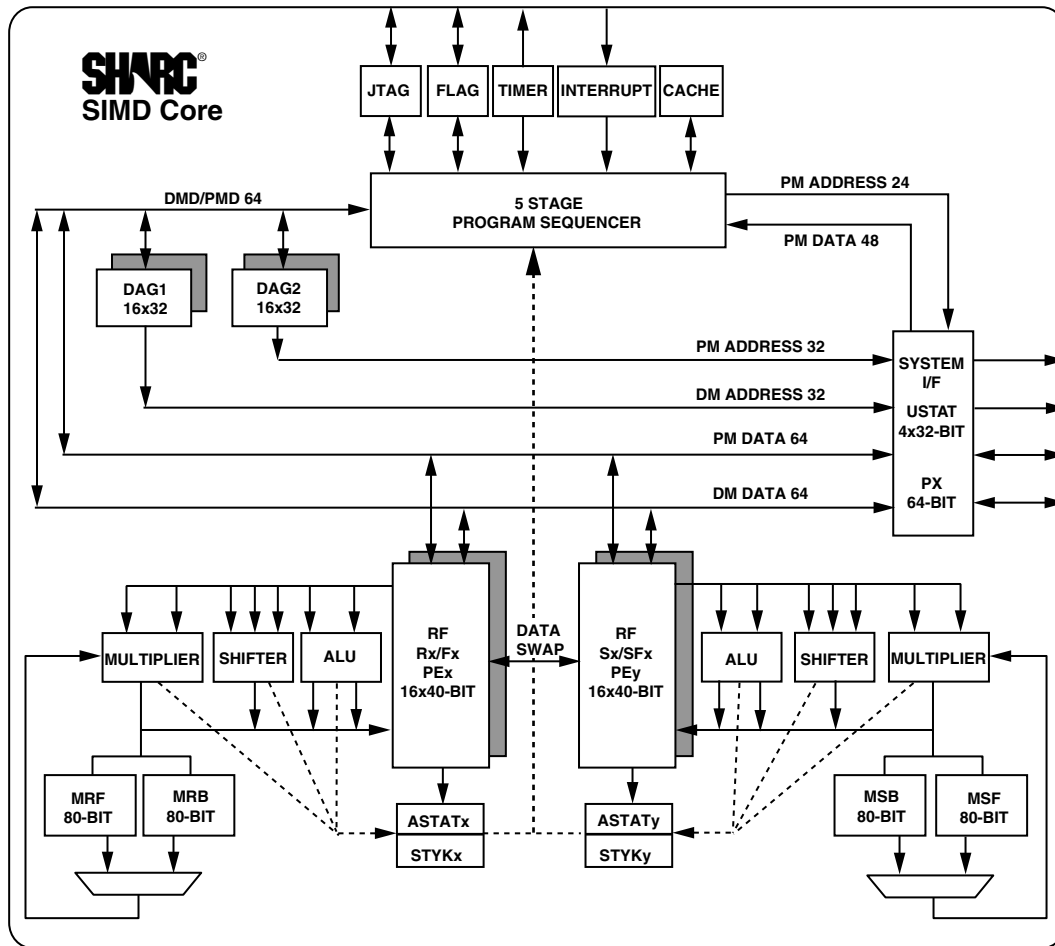

Figure 2. SHARC Core Block Diagram
The ADSP-2147x is code compatible at the assembly level with the ADSP-2146x, ADSP-2137x, ADSP-2136x, ADSP-2126x, ADSP-21160, and ADSP-21161, and with the first generation ADSP-2106x SHARC processors. The ADSP-2147x shares architectural features with the ADSP-2126x, ADSP-2136x, ADSP-2137x, ADSP-2146x and ADSP-2116x SIMD SHARC processors, as shown in Figure 2 and detailed in the following sections.
The ADSP-2147x features an enhanced Harvard architecture in which the data memory (DM) bus transfers data and the program memory (PM) bus transfers both instructions and data (see Figure 2). With its separate program and data memory buses and on-chip instruction cache, the processor can simultaneously fetch four operands (two over each data bus) and one instruction (from the cache), all in a single cycle.